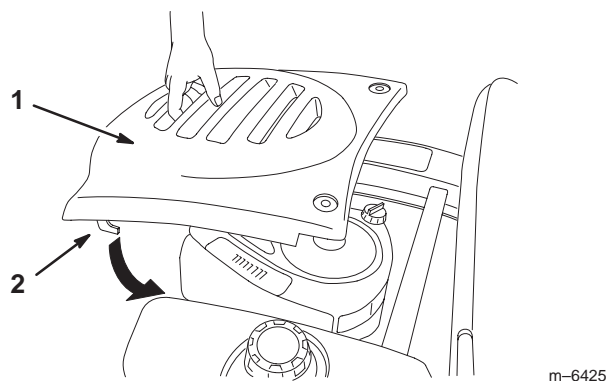

Figure 17
2. To install the hood, put the hooks into the slots and slide forward (Fig. 17).